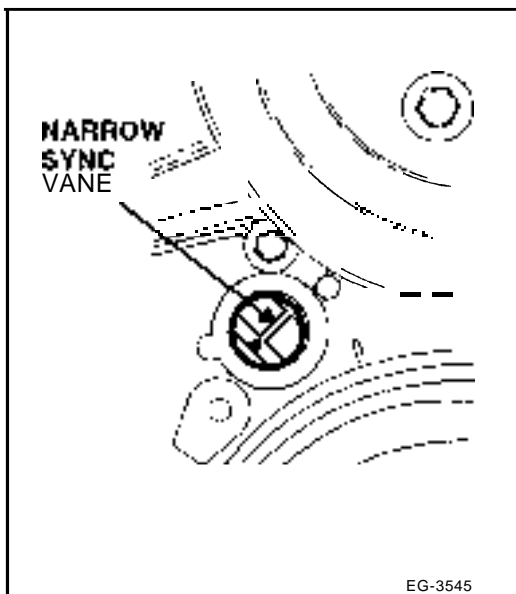

Figure 4.2. - View of Timing Disk (Camshaft Timing Correct)
- If the engine is on the compression stroke for #1 cylinder a narrow sync vane will be observed directly in the middle of the CMP sensor hole. Figure 4.2.